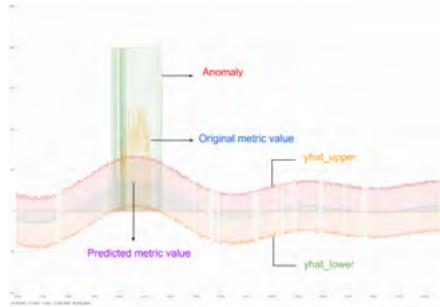

Figure 2. Anomaly detection dashboard
3. Visualization: We can visualize the time series metric behavior by creating graphs in Grafana. **Figure 2** shows how we can plot and compare the actual and predicted metric values on a dashboard.